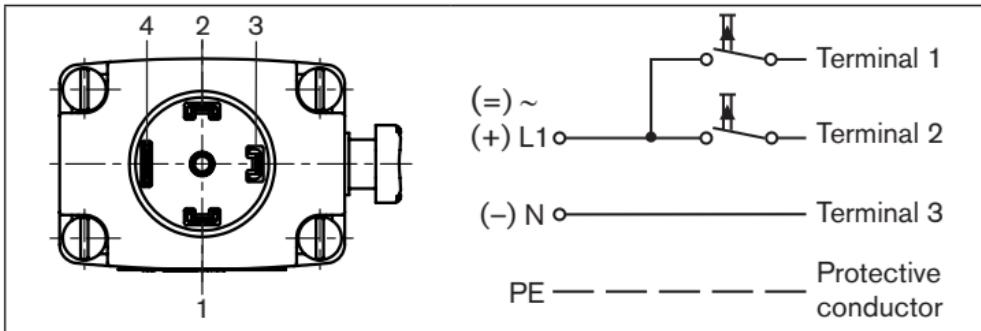

Fig. 4: Electrical connection pulse variant (CF 02)
- Connect as shown in "Fig. 4". Pulse on terminal 1 closes the valve; pulse on terminal 2 opens the valve.